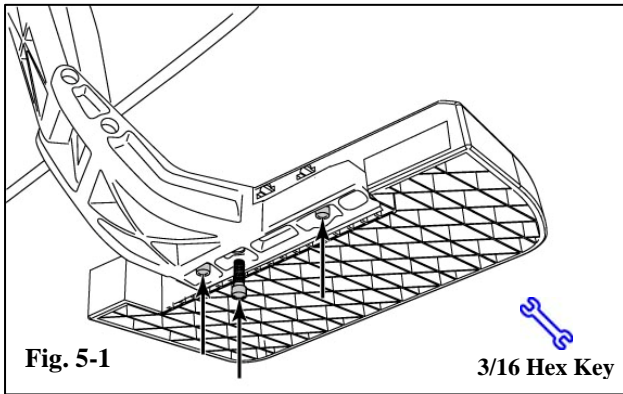

Fig. 5-1
- (1) Step Pad interface allows two positions... use position that extends step pad most inboard. (Fig. 5-1)
- (b) Insert cap screws into corresponding holes (second, third, and fifth) and torque to 8 N·m (6 ft-lbs) ±1.5 N·m. (Fig. 5-1)